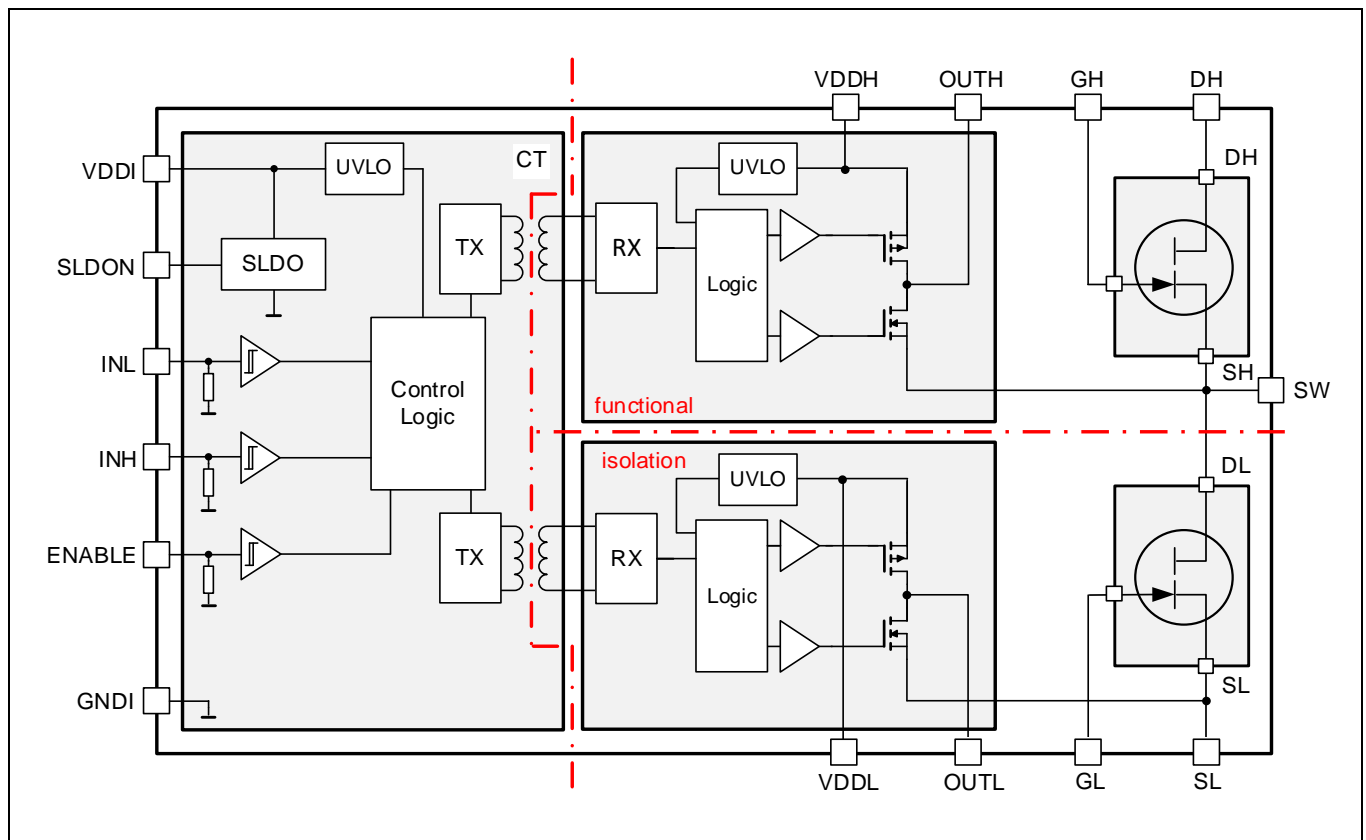

Figure 3 Block Diagram IGI60F2020A1L
A simplified functional block diagram of the CoolGaN™ Power Stage is given in **Figure 3**. For the level-shifting function of the input signal to the high-side switch an on-chip coreless transformer (CT) is utilized. For symmetry reasons a CT is also included in the low-side path, resulting in both a galvanic input-to-output and high-to-low-side isolation. In addition, this CT separates the low-side gate driver reference (SL) from GNDI allowing to use a shunt resistor for current sensing as shown in **Figure 1**.